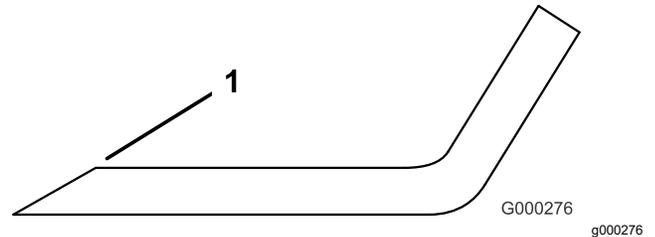

Figure 110
1. Use a file to sharpen the cutting edge at both ends of the blade (Figure 110).
Note: If the blade is not balanced, file some metal off the end of the sail area only (Figure 110).